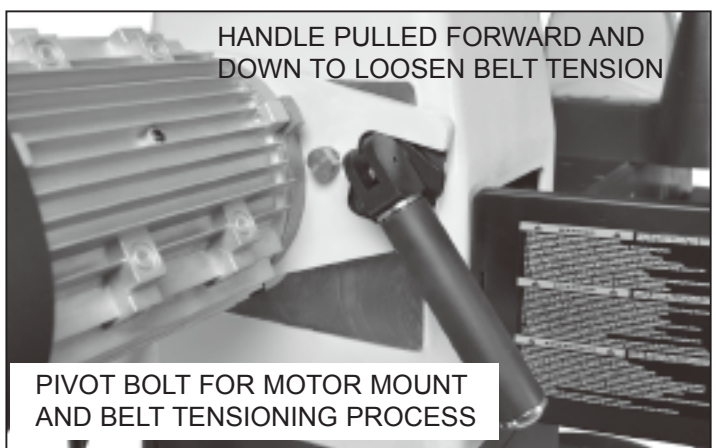
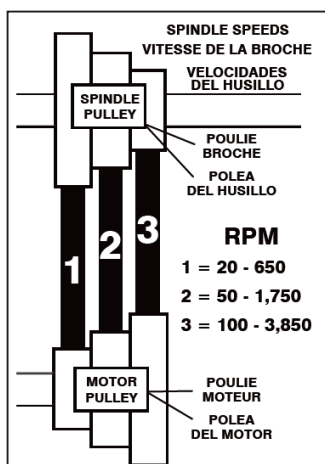

Fig.6.2.3
Fig.6.2.4
To change between the 3 speed ranges, Fig.6.2.4, the position of the drive belt on the motor and spindle pulleys must be changed. To do this:
4. Push the Tensioning Handle down to loosen the tension on the Poly-V-Belt (#B56). FIG. 6.2.3. The belt can now be positioned on the pulleys for the desired speed range. FIG. 6.2.4, shows the belt positions for the three speed ranges.